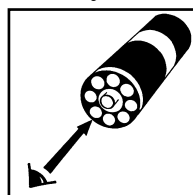

Figure 4
- a. **Low Range Comparator (fig. 4):** Place the ampoule, flat end downward into the center tube of the comparator. Direct the top of the comparator up toward a source of light while viewing from the bottom. Rotate the comparator until the color standard below the ampoule shows the closest match.